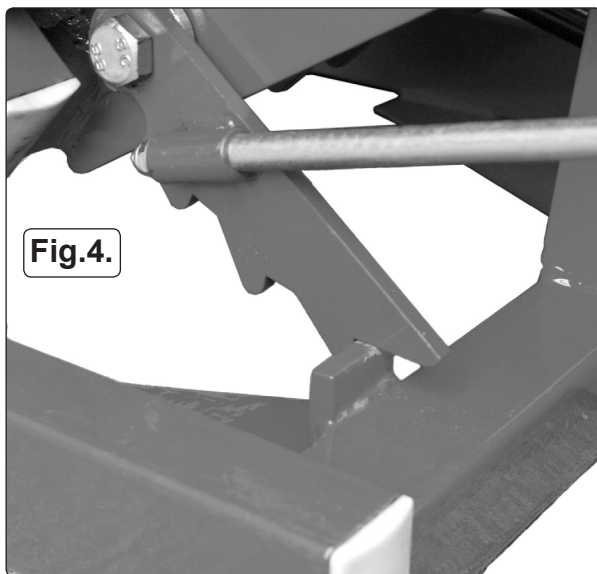

Fig.4.
- 3.2.8. If required, continue the lifting operation until the safety device activates at the highest locking position (fig.4).